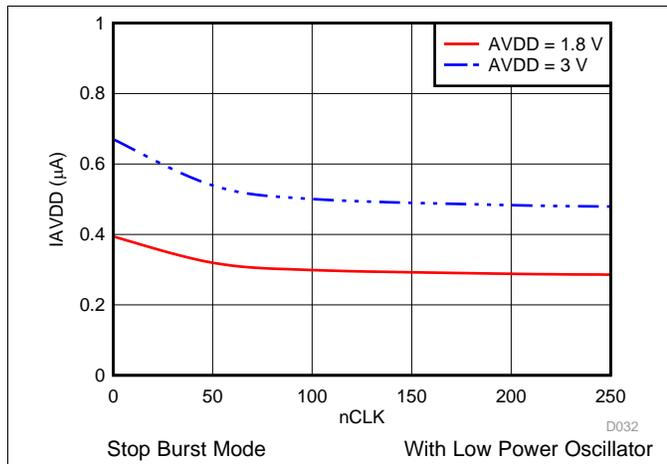
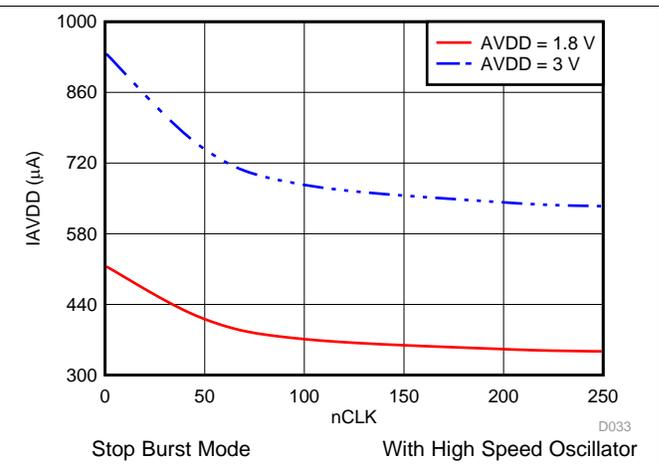
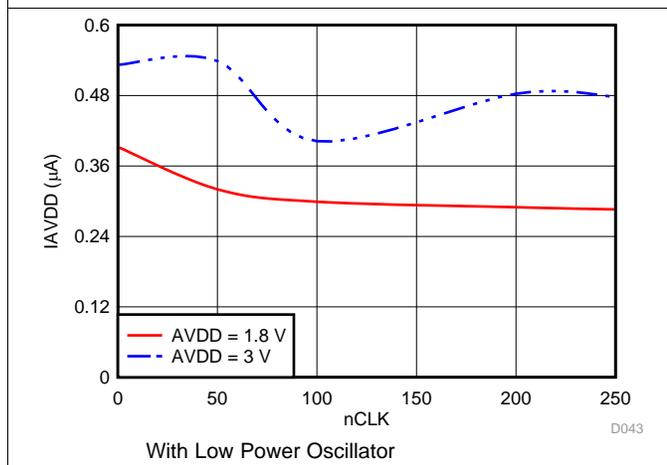
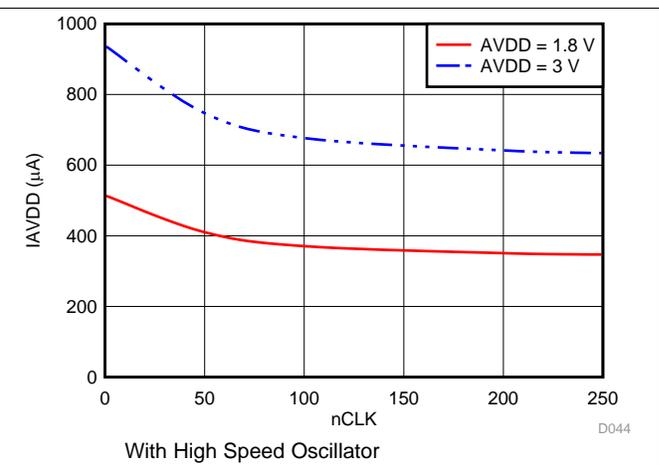

Figure 71. I_{AVDD} in Autonomous Modes with nCLK
Figure 72. I_{AVDD} in Autonomous Modes with nCLK
Figure 73. I_{AVDD} in High Precision Mode with nCLK
Figure 74. I_{AVDD} in High Precision Mode with nCLK
- In *Autonomous Modes* and *High Precision Mode*, the balance between sampling speed and power consumption can be obtained by selecting the oscillator for conversion and setting the nCLK value. The device sampling speed and power consumption reduce by increasing the nCLK value. Refer to Figure 71, Figure 72, Figure 73 and Figure 74 for current consumption in Autonomous modes and High Precision mode with different nCLK values.